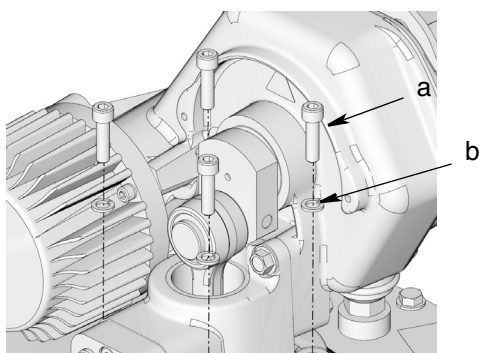

FIG. 8
6. Align holes in pump base with holes in tank / reservoir cover (FIG. 8). Securely fasten pump to tank / reservoir cover using screws (a) and washers (b) removed in Step 1, page 8.